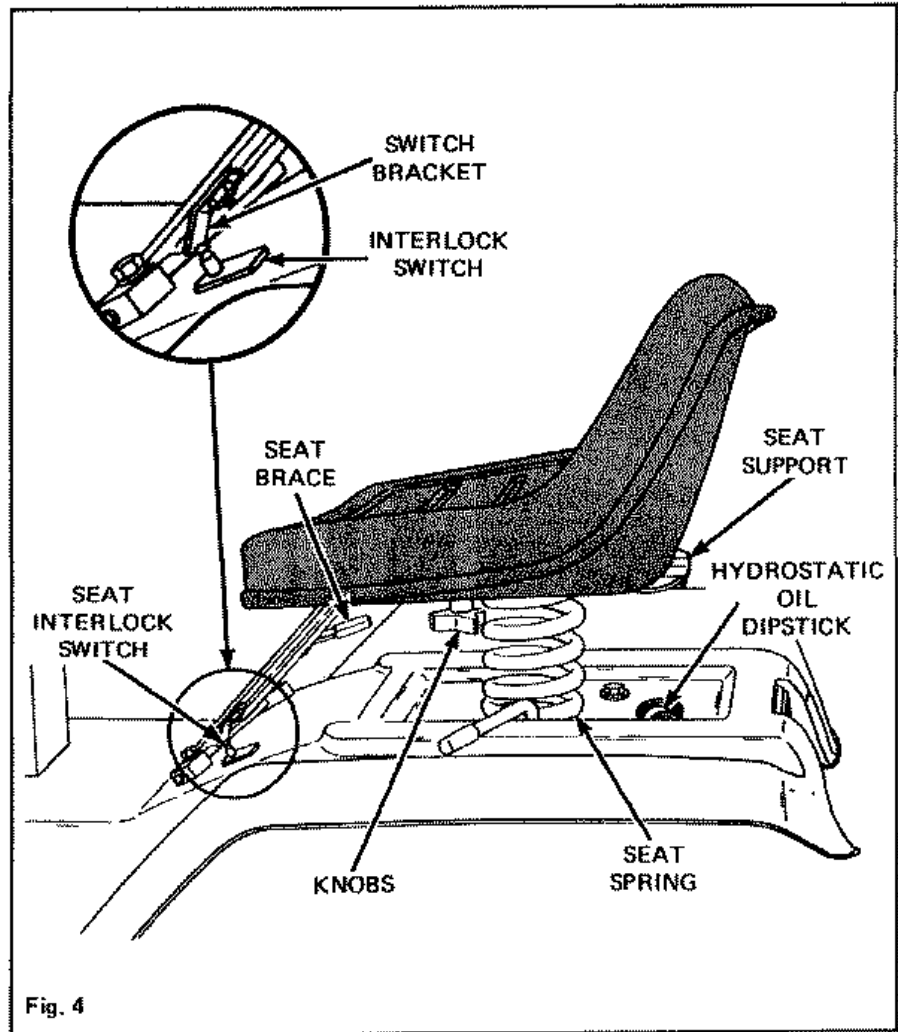

Fig. 4
7. Check hydrostatic oil before operating. Locate dipstick under seat, Fig. 4 and check. Oil level should be maintained in the safe operating range at all times.
SEAT ADJUSTMENT (Refer to Fig. 4)
In order for the P.T.O. to work, the seat switch must be activated by sitting on the seat, or if there is a need to start the P.T.O. from off the seat, just tip the seat up and lift interlock button up, see Figure 4.